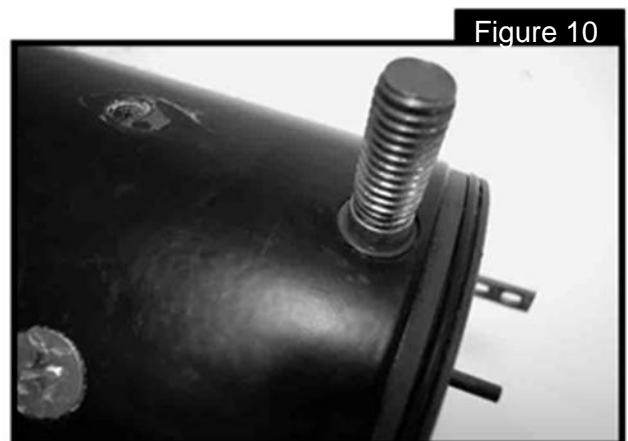

Figure 10
1.9 Push the 5/8" OD insulation bushing over the terminal stud and into the field ring hole. Slide the o-ring down after so it is in flush with the OD of the frame.(figure10)